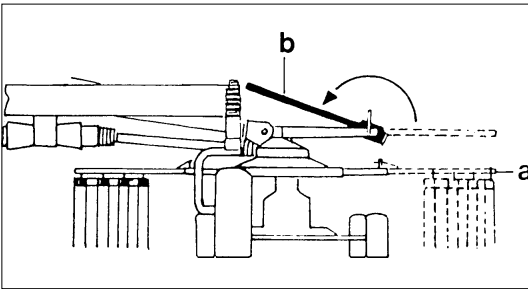

Fig. 3-15a
2. Fold in the lateral safety frames (b) until they lock into engagement (fig. 3-15a).